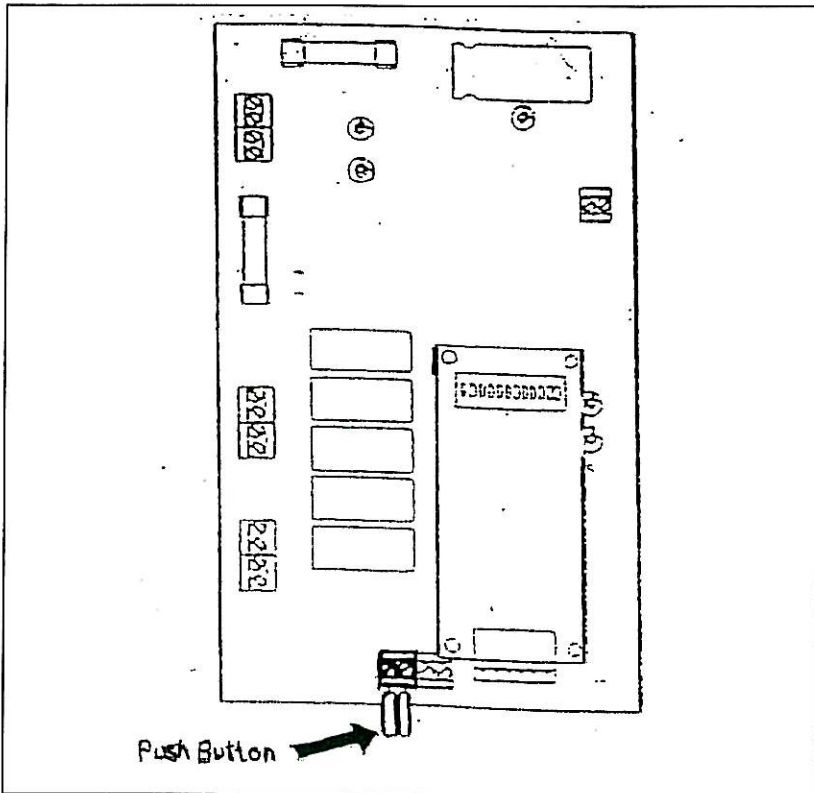

Figure 10: Push Button/Key Pad Connection
- Radio Push Button      Key Pad [KP]    [See Figure 10]